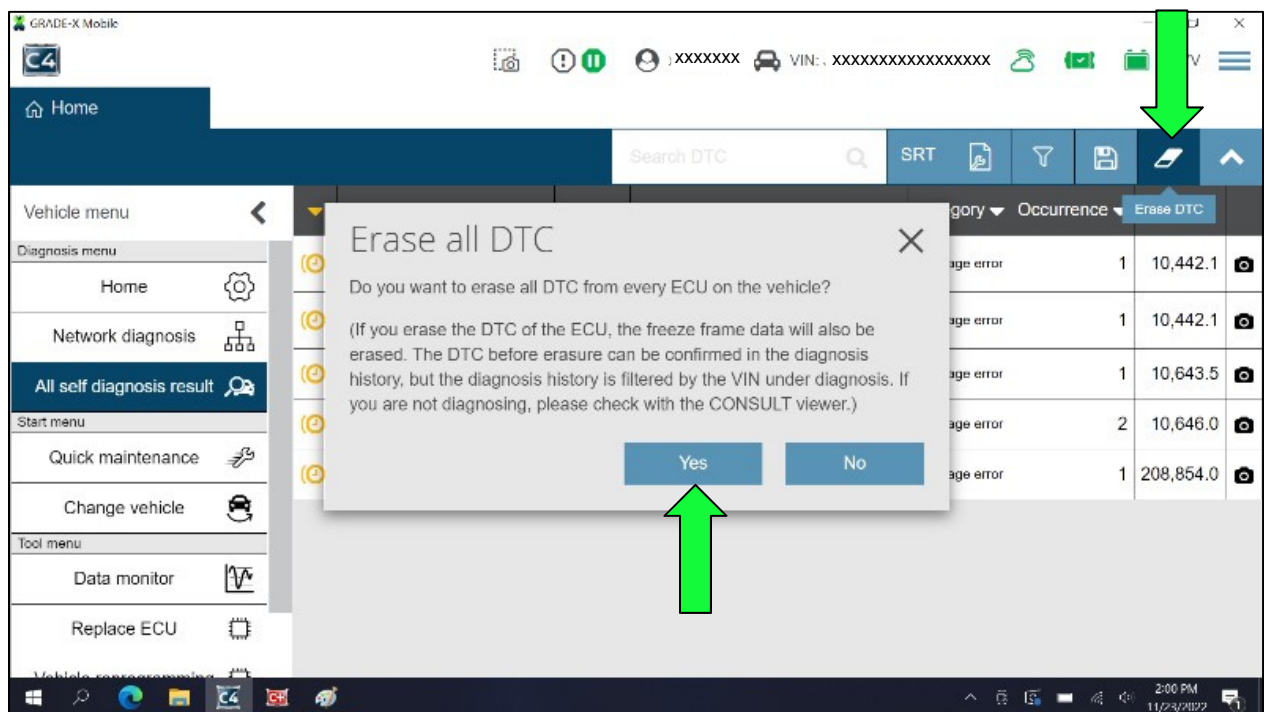

Figure 24
- b. Select the **Erase DTC** icon, and then select **Yes** to erase (Figure 24).